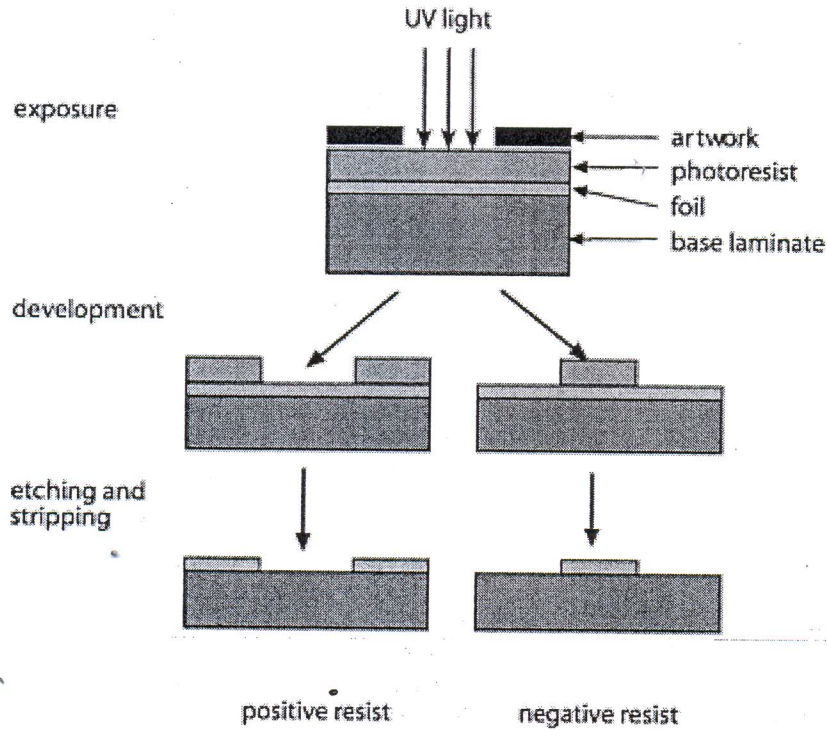

Figure 3: IC Fabrication Process
- (b) Name the process shown in figure 3 above? Explain the processes of positive & negative resist